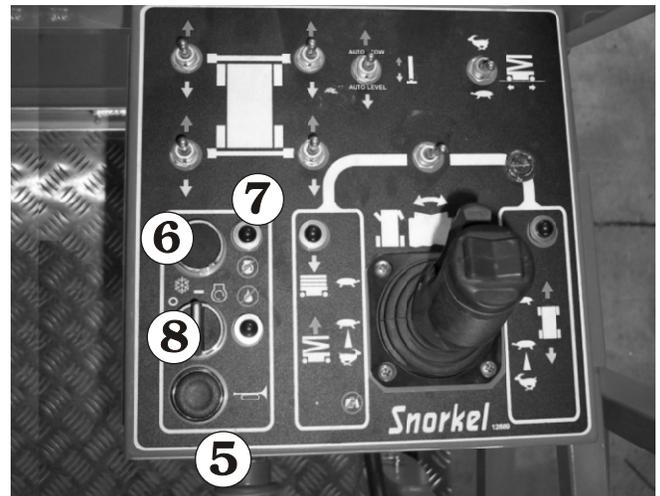

Figure 8.8
6. Turn the **Emergency Stop** switch **5** clockwise and it will pop out (on) (see Figure 8.8).
7. If the engine is at ambient temperature(cold), momentarily press the **Glow-Plug** switch **6** . This action will automatically turn the glow-plugs, in the engine, on for 10 seconds. A light **7** will automatically come on to indicate that the glow-plugs are on (see Figure 8.8).
7. When the light goes out, turn and hold the **START** switch **3** until the engine starts or for 20 seconds, whichever comes first. When the engine starts, release the **START** switch (see Figure 8.8).